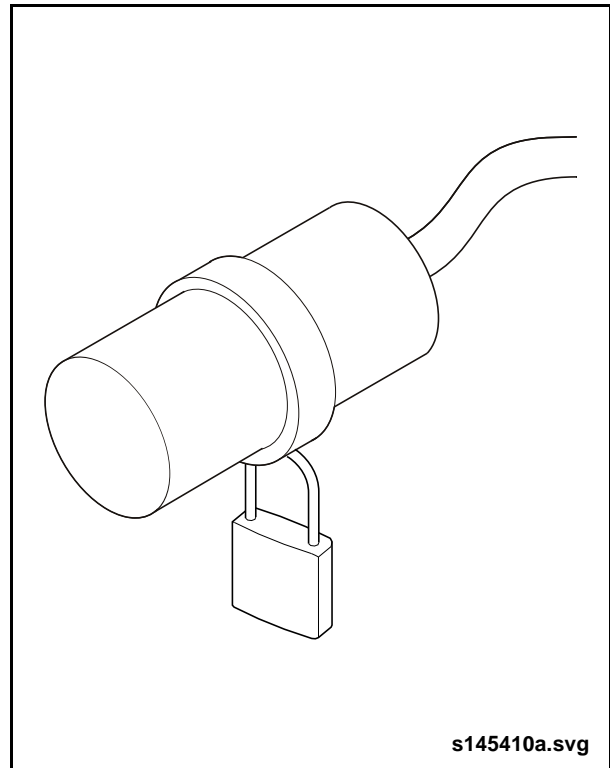

Fig. 16: Locking Cable Cover
10. Cover the connector on the cable with a locking cover to prevent it from being reinstalled until after the service work is complete. See "Fig. 16: Locking Cable Cover" on page 11.